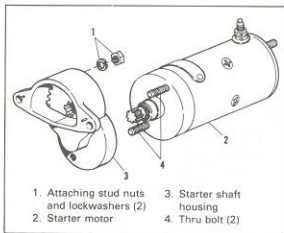

Figure 5-27. Removing Starter Motor
Disconnect solenoid cable from starter motor terminal. Remove attaching nuts and lockwashers (1, Figure 5-27) which fasten starter motor housing (3) to studs on chain housing. Remove starter motor end support plate (not shown) from transmission. It may be necessary to loosen and raise battery carrier to provide clearance. Remove starter motor (2) and starter shaft housing (3) from motor-cycle as an assembly.